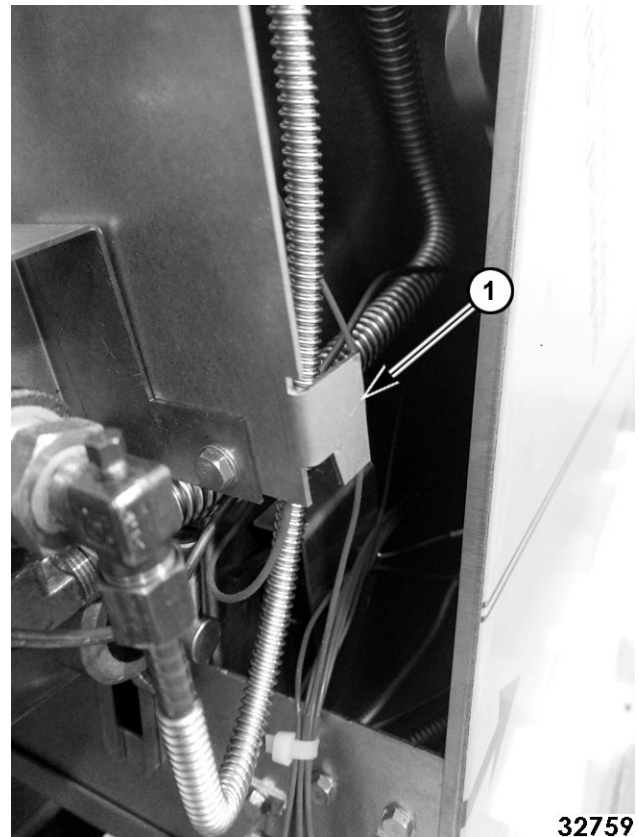
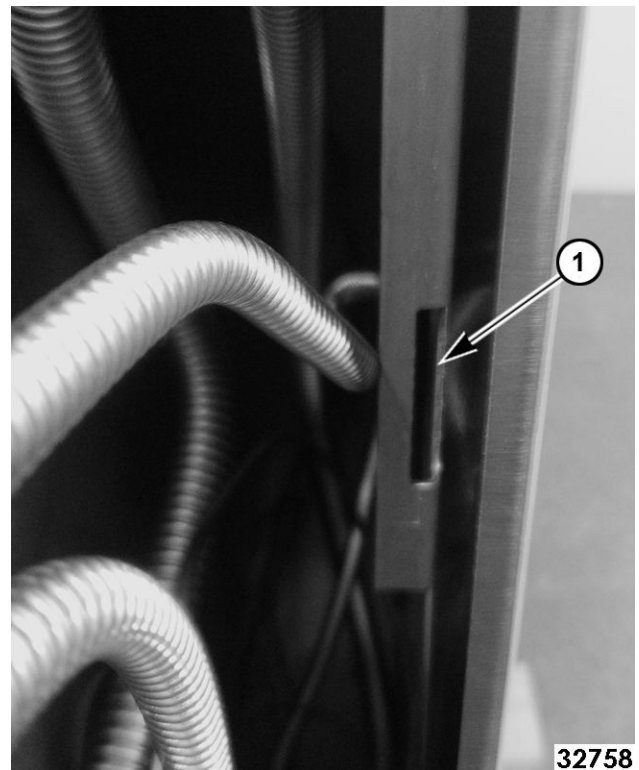

Fig. 4
Fig. 5
7. Lift up gas mount bracket to release hook (1, Fig. 4) off inner tab (1, Fig. 5). Pull out pilot safety valve and temperature control bracket assembly from oven.